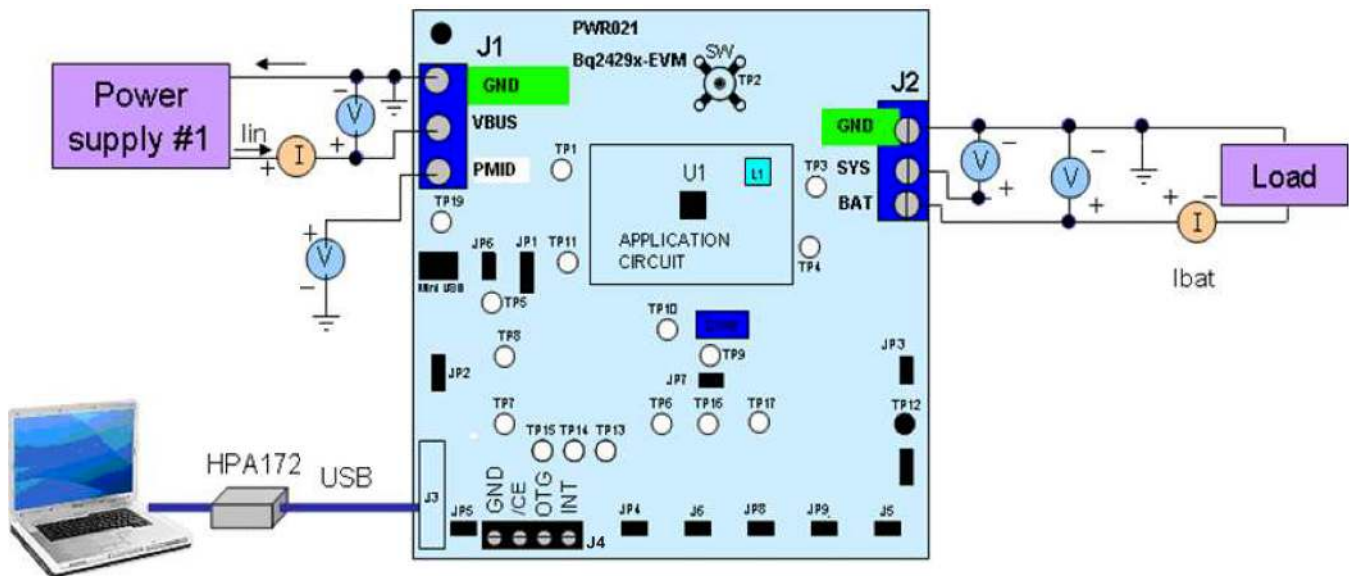

Figure 2. Original Test Setup for PWR021 (bq2429xEVM)
4. Turn on the Load, set to constant voltage mode and output to 2.5 V. Turn off (disable) Load. Connect Load in series with a current meter (multimeter), ground side, to J2 (BAT+ and GND) as shown in Figure 2.